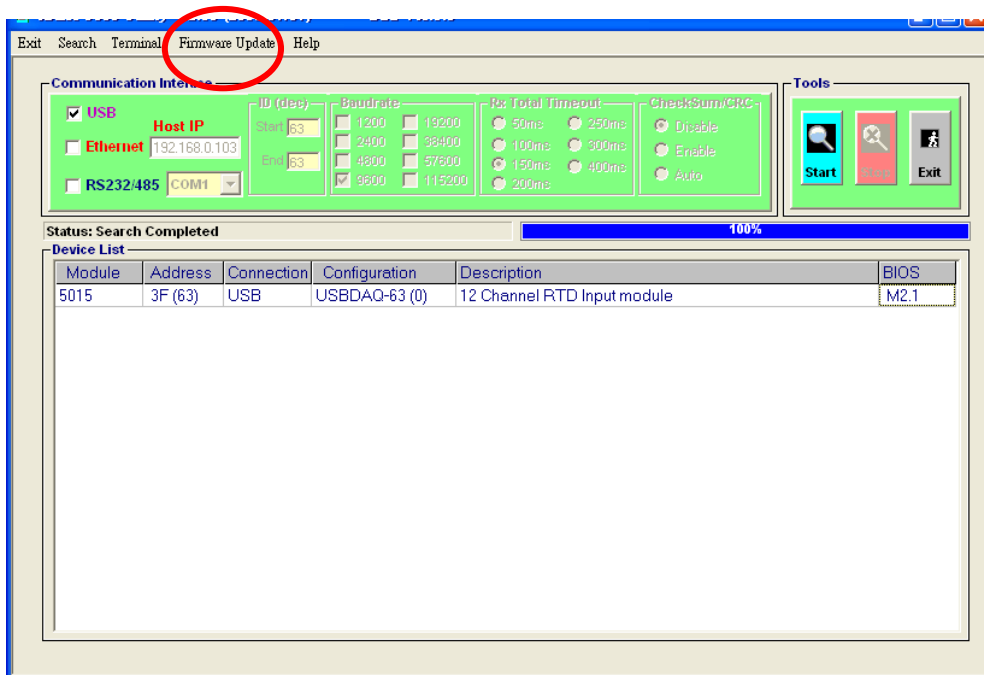

Figure -4
- 4. Click "Firmware Update" in the menu bar (see Figure -4)